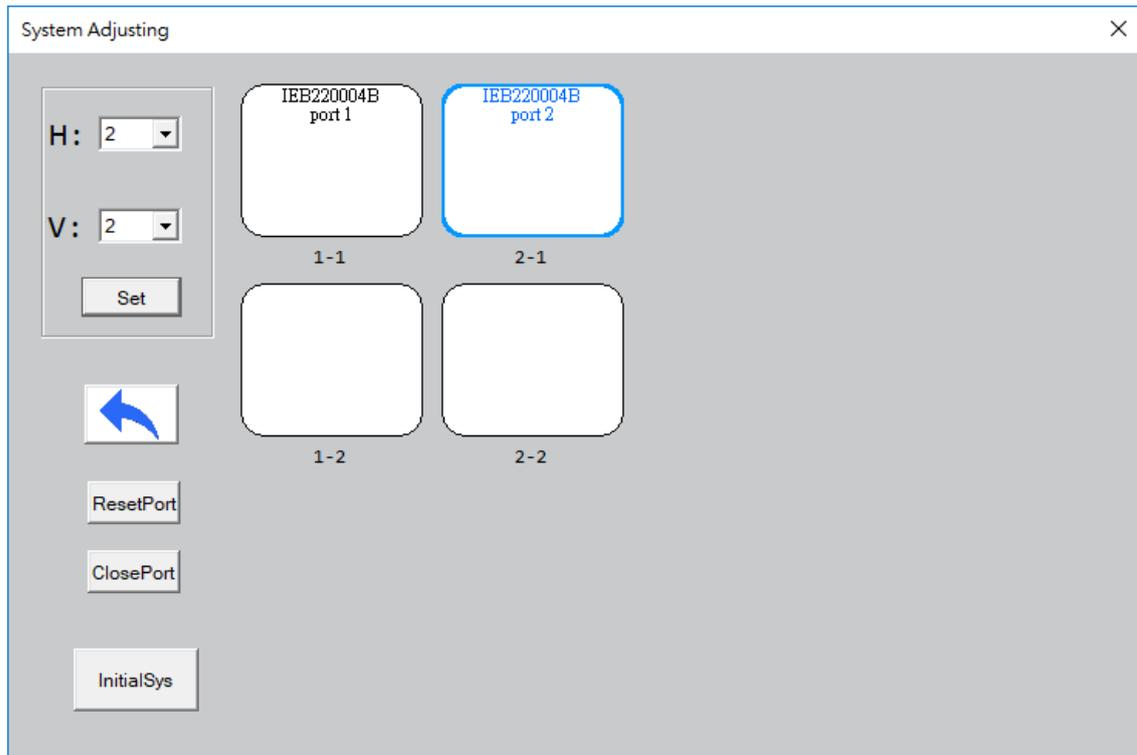

Figure 8: System Adjusting Function UI
- Double click to change: First, double click to choose the position you want to change. When font color become blue (like Figure 8), click the target position.
**Close port:** First, double click to choose the position you want to close. When font color become blue(like Figure 8),click this button.